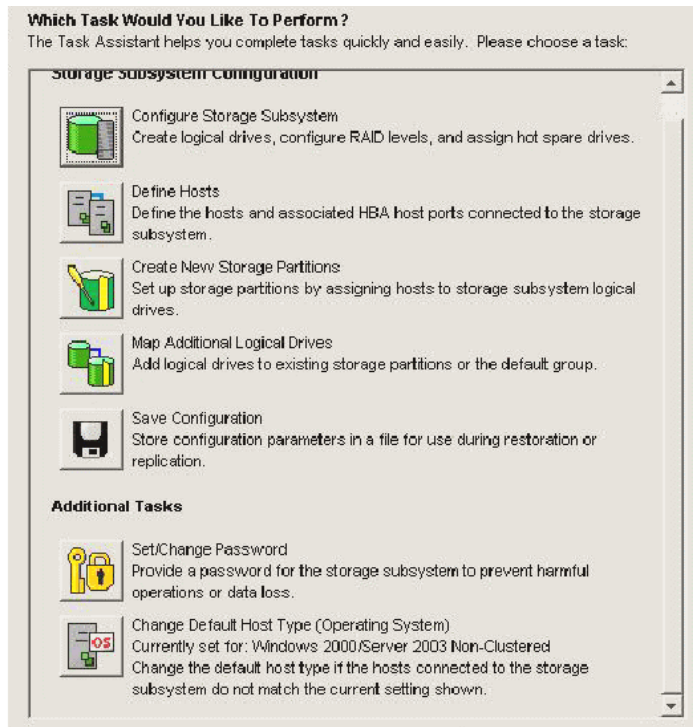

Figure 9-46 Click on define hosts
15. Click **Cancel** to exit configuration task. You will see a window similar to Figure 9-46.